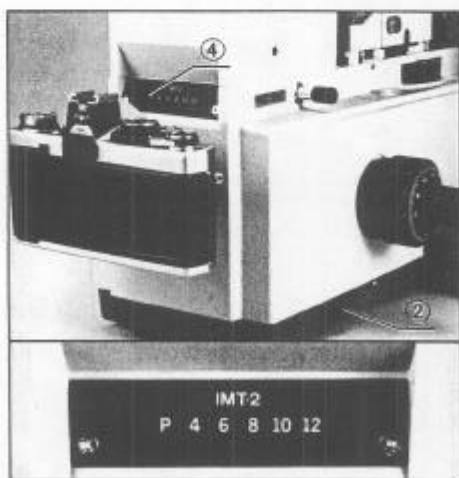

Fig. 19
- As you push the control lever forward, the LED at the indicator "P" lights up on the left side of the voltmeter ④ to indicate the bulb voltage between 0 ~ 3V. Then, five LED on the right side indicate 4V ~ 12V in increments of 2V. (Fig. 19)